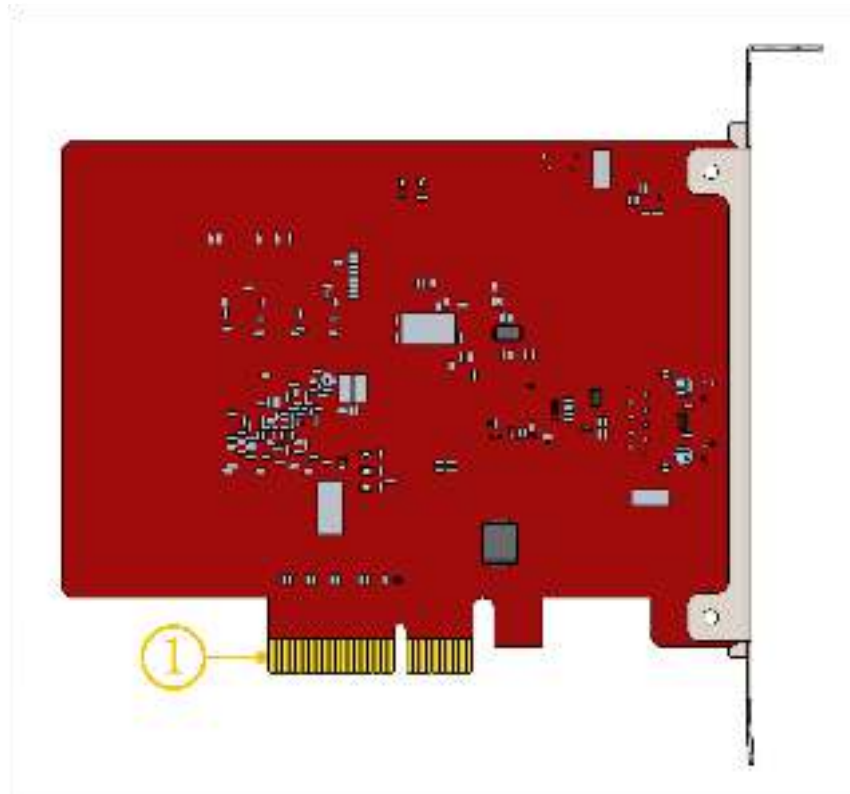

Figure 6 Gold Fingers
BMC228A PCIE socket is X4 (Figure 6①) and can be used for X4, X8, X16. Its PCI Express Protocol standard is V2.0 (Gen2) and the BMC228A motherboard requirements are as shown in Table 2-3.